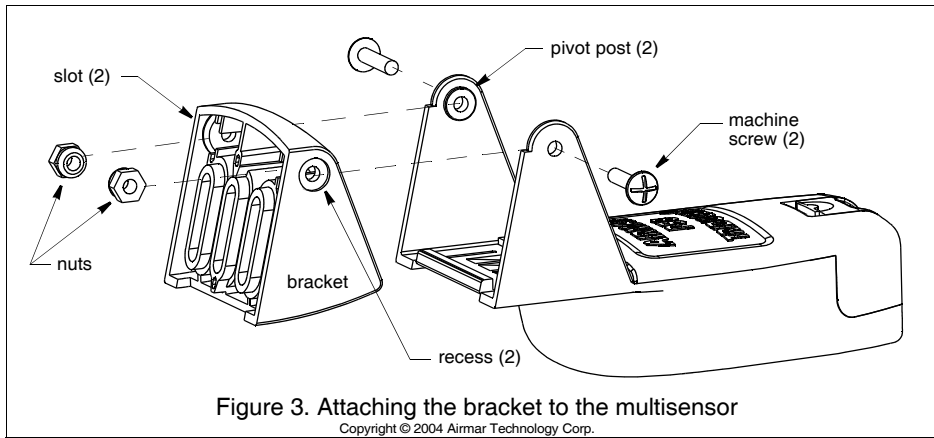

Figure 3. Attaching the bracket to the multisensor
1. Insert the multisensor's pivot posts into the recesses on the sides of the bracket (see Figure 3).
1. Apply marine sealant to the threads of two, #10 x 1-1/4", self-tapping bracket screws to prevent water seepage into the transom. *Be sure the nuts are in the slots in the back of the bracket and any shim(s) is in place* (see Figure 3). Screw the multisensor to the hull (see Figure 4). *Do not tighten the screws completely at this time.*